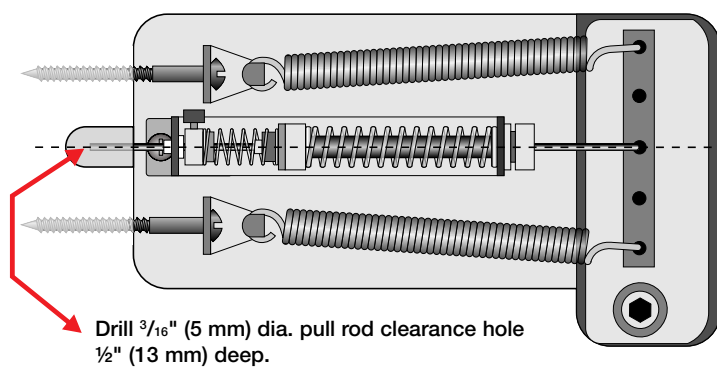

fig. 3
3) Loosen the setscrew on the Tremsetter's brass collar (see fig. 3). Do not let the pull rod accidentally slide out of the bracket, the unit can fall apart and parts become lost. Carefully slide the pull rod through the Tremsetter just far enough so that it clears the back face of the tremolo cavity. Install the Tremsetter by snugging the square hole of the Tremsetter bracket against the hooked end of the hinge clip. Line the Tremsetter up straight with the guitar and gently press the pull rod into the back face of the cavity wall so that it leaves a small mark.